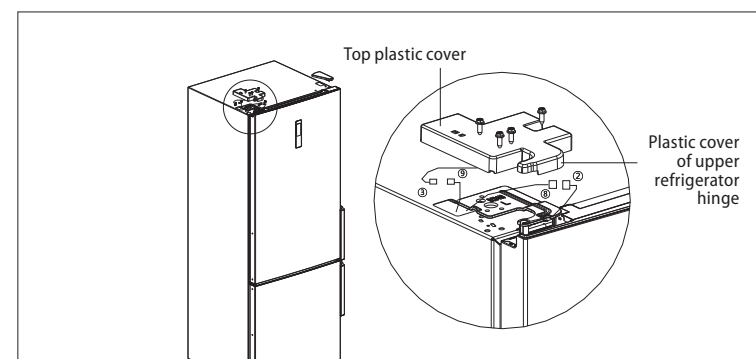

Fig. 8
17. In the package with accessories, you can find the upper hinge of the refrigerator, which is to be installed on the other upper side of the unit as shown in Fig. 8.
18. Connect the connectors and install the top plastic cover (Fig. 8).
19. Connect connectors 8 + 2 and 3 + 9 and mount the top plastic cover (Fig. 8).